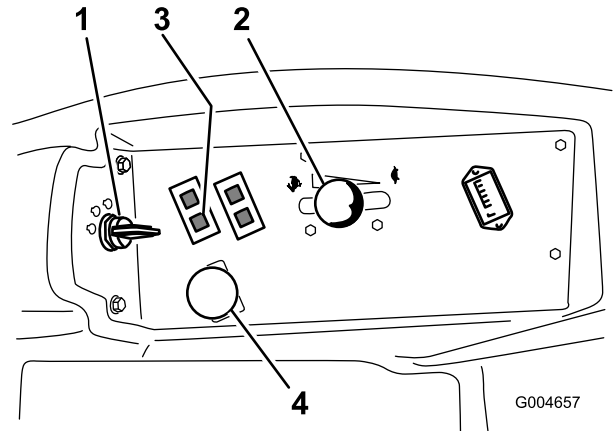

Figure 43
4. Move the PTO (power take off) switch to the off position (Figure 43).
5. Move the throttle lever midway between the Fast and Slow positions (Figure 43).